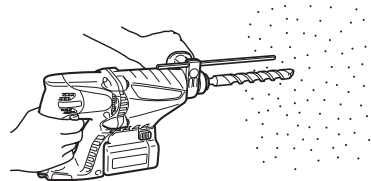

Fig. 13
- (1) Mount the drill bit.
- (2) Pull the trigger switch after applying the drill bit tip to the drilling position. (Fig. 13)
- (3) Pushing the rotary hammer forcibly is not necessary at all. Pushing slightly so that drill dust comes out gradually is just sufficient.
- When the drill bit touches an iron reinforcing rod, the bit will stop immediately and the rotary hammer will react to revolve. Therefore please grip the side handle and handle tightly as shown in Fig. 13.